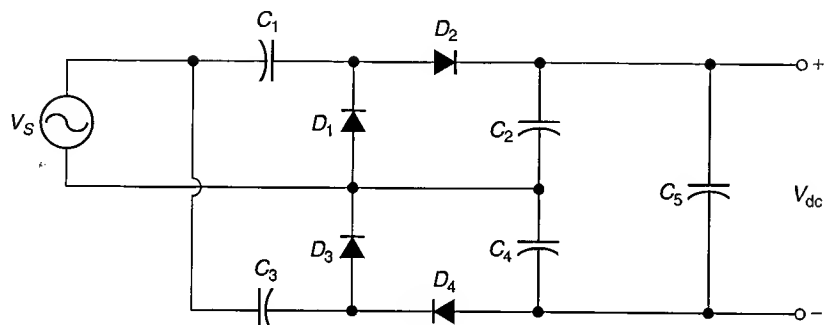

FIGURE 4.43
30. The circuit shown in Figure 4.43 has an 18 V_{pk} input signal. Determine the values of V_{C1} , V_{C2} , V_{C3} , V_{C4} , and V_{C5} for the circuit. Assume that the diodes are ideal components.
31. The circuit shown in Figure 4.43 has a 36 V_{ac} input signal. Determine the values of V_{C1} , V_{C2} , V_{C3} , V_{C4} , and V_{C5} for the circuit. Assume that the diodes are ideal components.